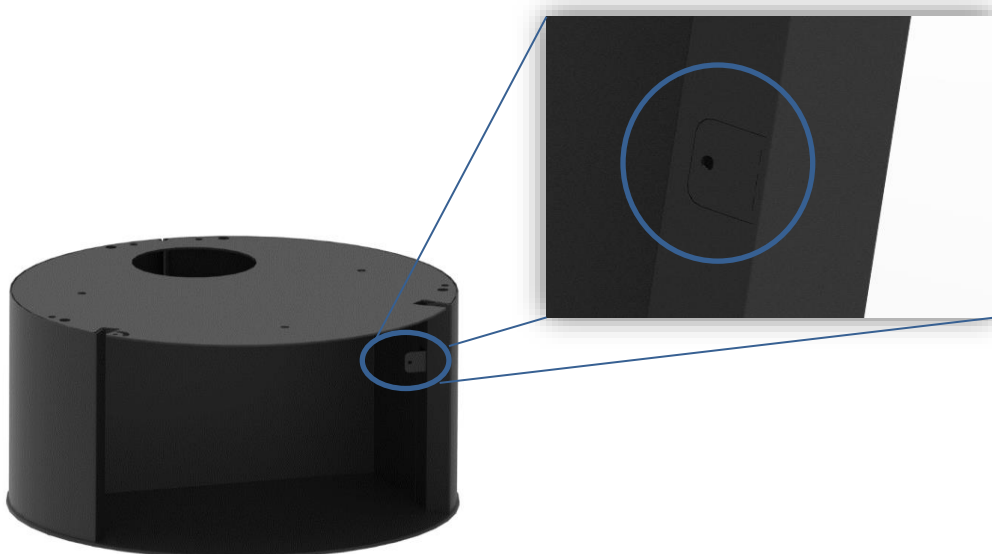

Figure 11 – Preparation of the base of the equipment, to place the door
- 1- Using a key, carefully fold the tab on the right side of the base, so that it is perpendicular to the side, as shown in Figure 11.